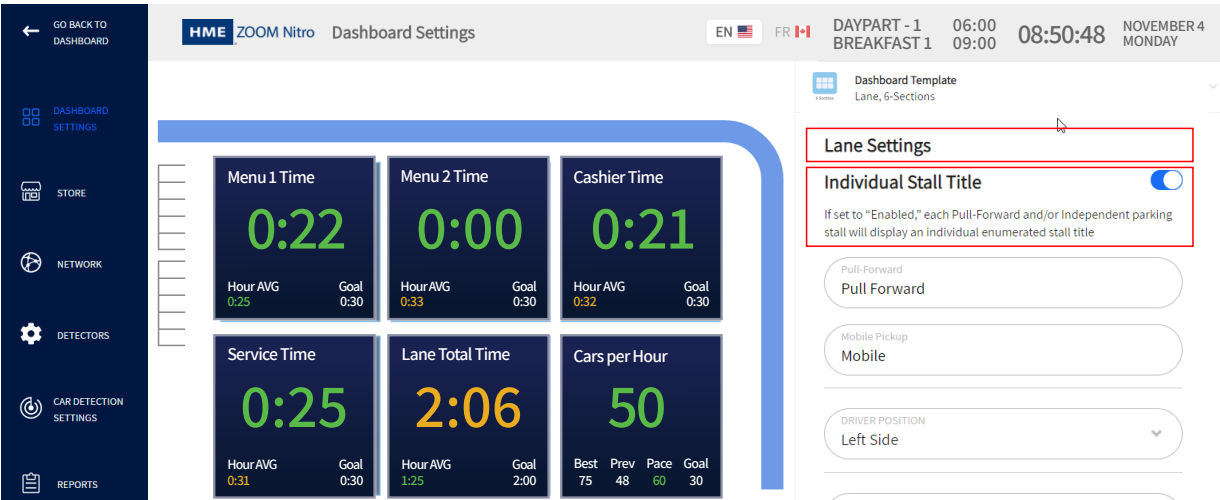

Fig. 3.13
<div>DAYPART/SHIFT OPTION</div> <div>Show DP with Time</div>	DAYPART/SHIFT OPTION: Different combinations of Daypart (DP), Shift, and Time can be selected here to be displayed at the top of your Dashboard screen (see Fig. 3.13).